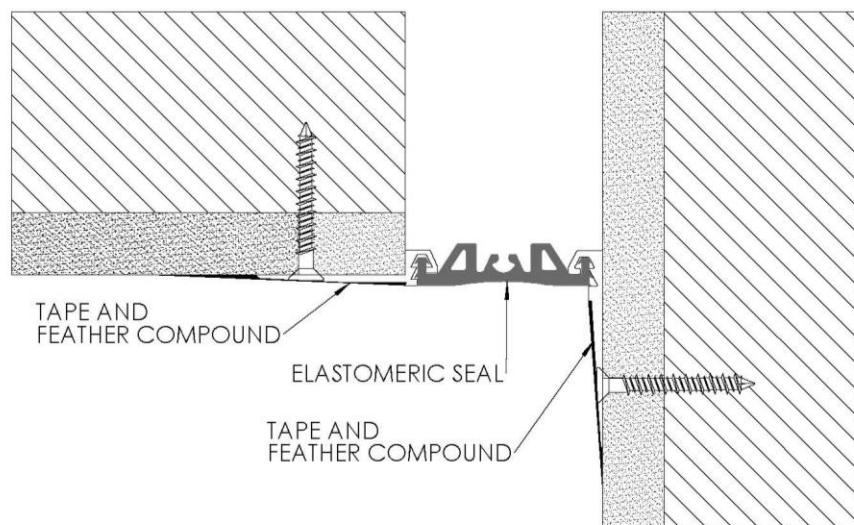

FIGURE 6
3. Protect the elastomeric seal with tape and feather joint compound (by others) over the exposed aluminum frames and onto the gypsum wallboard. Remove tape after wall or ceiling has been finished. **See Figure 6**